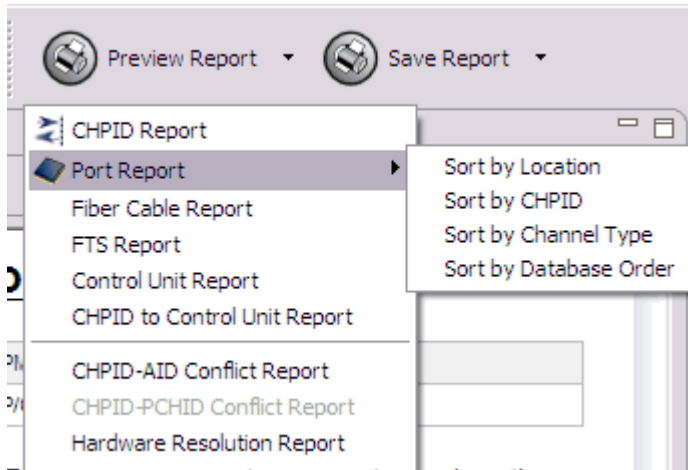

Figure 131. Additional options under Port Report
- If you click **Port Report** you additionally need to click a **Sort by...** selection. Figure 131 on page 102 shows these additional selections.